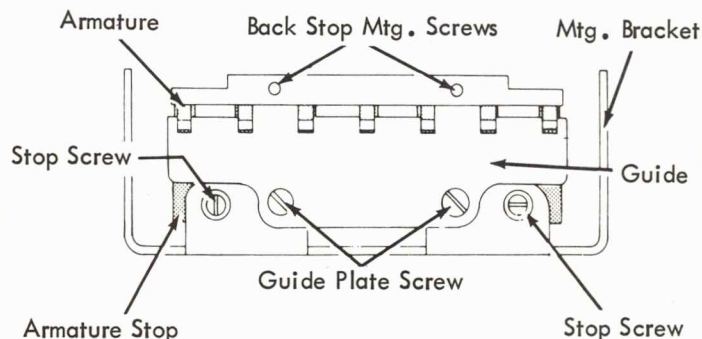
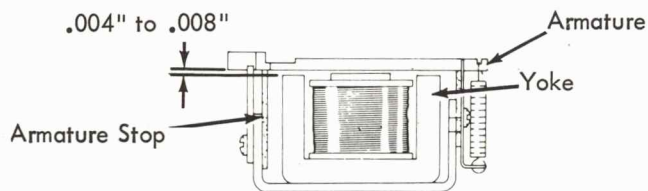

FIGURE 11. Armature Stop
FIGURE 12. Armature Stop
3. Armature Stop - With the armature manually attracted, adjust for a clearance of .004" to .008" between the armatures and yokes (Fig. 12 - see Fig. 11 for assembly end view). Measure clearances at the outside armatures (T2 & R5).
4. Armature Guide - Position horizontally so that the armatures are centered in the guide slots (Fig. 11).